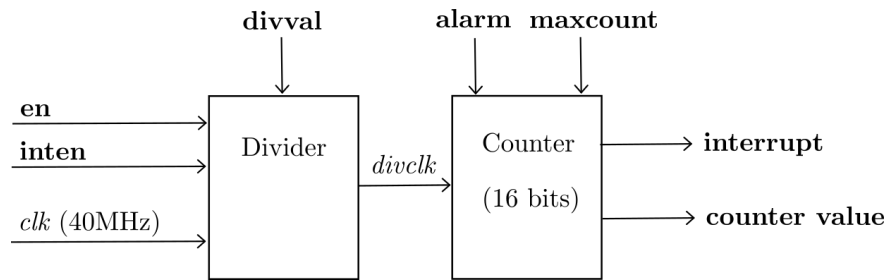

Figure 2: Block diagram of the hardware timer
For this question you have to build a traffic light/pedestrian crossing controller. The traffic lights will tick through their normal sequence, however, the crosswalk button will trigger an interrupt that will cause the traffic light to turn red after a small delay. A finite state machine (FSM) of the traffic light sequence can be seen in Figure 2.
5. Complete the code above to implement the traffic light **without** the crosswalk button. The LEDs must correctly change state according to the FSM in Figure 2, you may ignore state 4 for this question. You will need to use the memory-mapped registers to configure and control the GPIO pins, you are not permitted to use the Arduino `digitalWrite()` functions. In state 1, the green crosswalk LED should flash with a period of 250ms. If we are in an unknown state make all the LEDs flash forever with a period of 250ms.
6. Add the functionality for the crosswalk button according to the FSM in Figure 2. When the crosswalk button is pressed the system should move into state 4 with minimal delay.